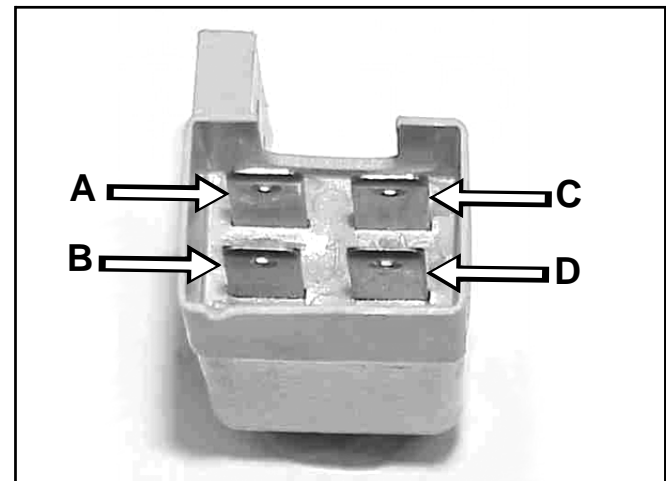

Figure 22
2. Using a multimeter, follow the procedures listed below (Figure 22):